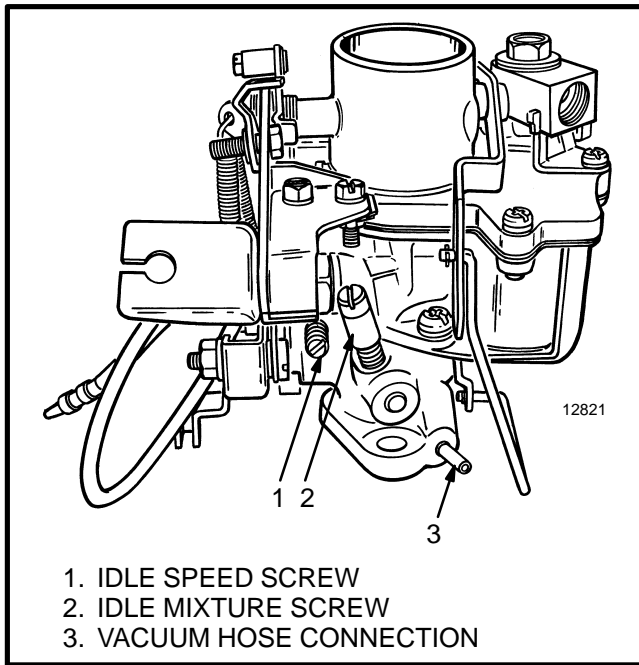

FIGURE 8. CARBURETOR ADJUSTMENTS
Idle Speed And Mixture Adjustment (See FIGURE 8.)
2. Put the transmission in NEUTRAL. Start the engine. See FIGURE 8. Turn the idle mixture screw (2) until it is against its seat. Loosen the screw 1.5 to 2 turns. Loosen the idle speed screw (1) until the engine runs rough.